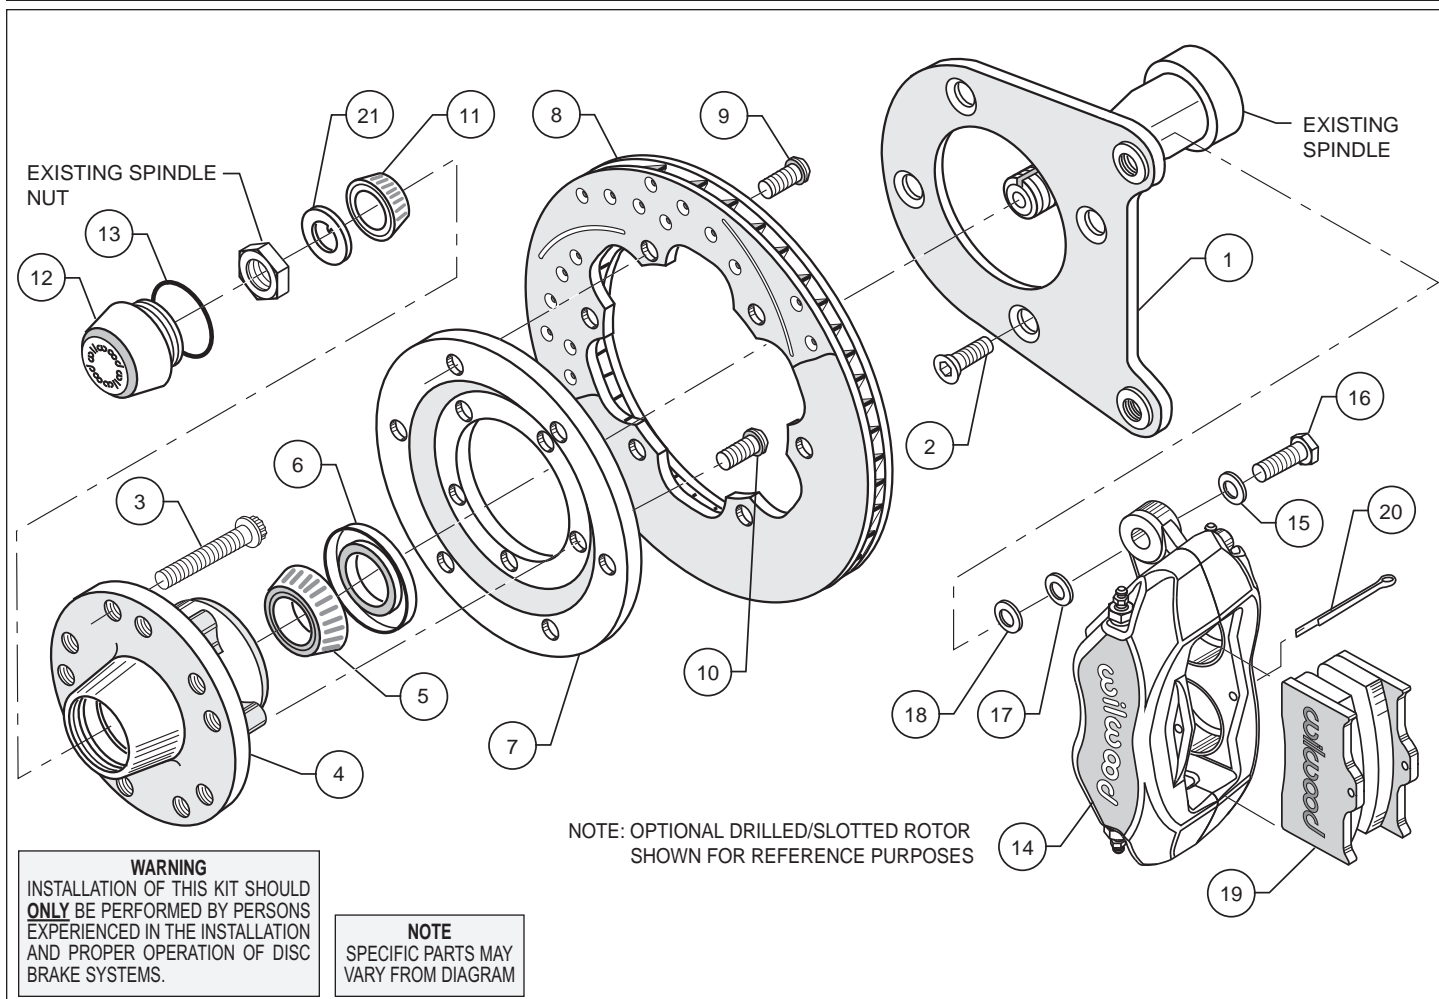

Figure 1. Typical Installation Configuration
- To accommodate several model years, multiple holes have been drilled in the caliper mounting bracket (1). Rotate the bracket until the two correct holes that align with the mounting holes in the face of the spindle are located. Apply red *Loctite*® 271 to bolt threads (2) before assembly of the caliper mounting bracket (1). Mount bracket (1) to dust face plate of spindle using bolts (2). Torque bolts (2) to 198 in-lb. **NOTE:** Be sure the heads of the caliper bracket (1) insert nuts are facing outward toward the wheel.
- Install wheel studs (3) into the hub (4). Torque to 77 ft-lb. **NOTE:** There are two five lug patterns in the hub (5 x 4.50 and 5 x 4.75). Make sure of the correct hole pattern for the correct wheel application before installing studs into hub.
- Pack the large inner bearing cone (5) with high temperature disc brake bearing grease (available from your local auto parts store) and install into the backside of the hub (4).
- Install the grease seal (6) by pressing into the backside of the hub (4).
- Orient the rotor (8) and the rotor adapter (7) as shown in Figure 1. Attach the rotor to the adapter using bolts (9). Using an alternating sequence, apply red *Loctite*® 271 to the threads, and torque to 25 ft-lb.
- Mount the adapter/rotor assembly (7/8) to the hub (4) using bolts (10) (finger tight), as shown in Figure 1. Using an alternating sequence, remove bolts one at a time, apply red *Loctite*® 271 to the threads, and torque to 45 ft-lb.
- Pack the small outer bearing cone (11) with high temperature disc brake bearing grease and install into front of hub (4). Slide the hub/rotor assembly (4 and 8) with outer bearing cone (11) onto the spindle. Secure using stock washer, adjusting nut and nut locking device. Adjust bearings per Original Equipment Manufacturer (OEM) specifications.
- Install the dust cap (12) onto the hub (4). Friction created by the o-ring (13) on the dust cap (12) keeps it from unscrewing. The O.D. of the existing spindle washer may be larger than the I.D. of the dust cap (13) not allowing it to seat against the hub face. Some grinding on the washer O.D. may be necessary to clear the I.D. of the dust cap (12).
- NOTE:** Please reference the caution statement at the beginning of the assembly instructions. Mount the caliper (14) onto the caliper bracket (1) using washers (15), bolts (16), and caliper spacer (17). Finger tighten. View the rotor (8) through the top opening of the caliper (14). The rotor (8) should be aligned in the center of the caliper (14). If not, adjust the caliper (14) by using 0.032 inch thick shims (18) placed between the caliper mounting bracket (1) and the caliper spacer (17). Finger tighten. Add as many shim washers (18) as necessary to achieve the